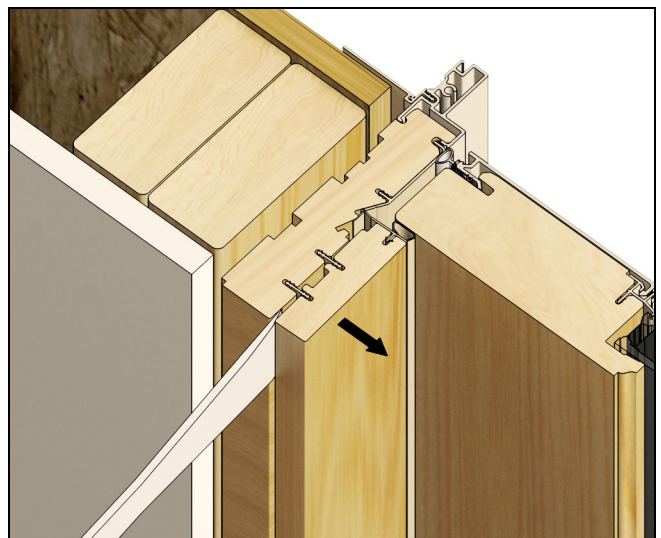

Figure 15
1. Remove covers by inserting a flat edge (pry bar) between the cover and the jamb. Starting at the top, gently pry cover away from the jamb and work your way down until the cover is fully disengaged. See Figure 15. Repeat for other jamb and head jamb covers. *Note: Units also come with a pull tab to assist with removal of the jamb covers.*